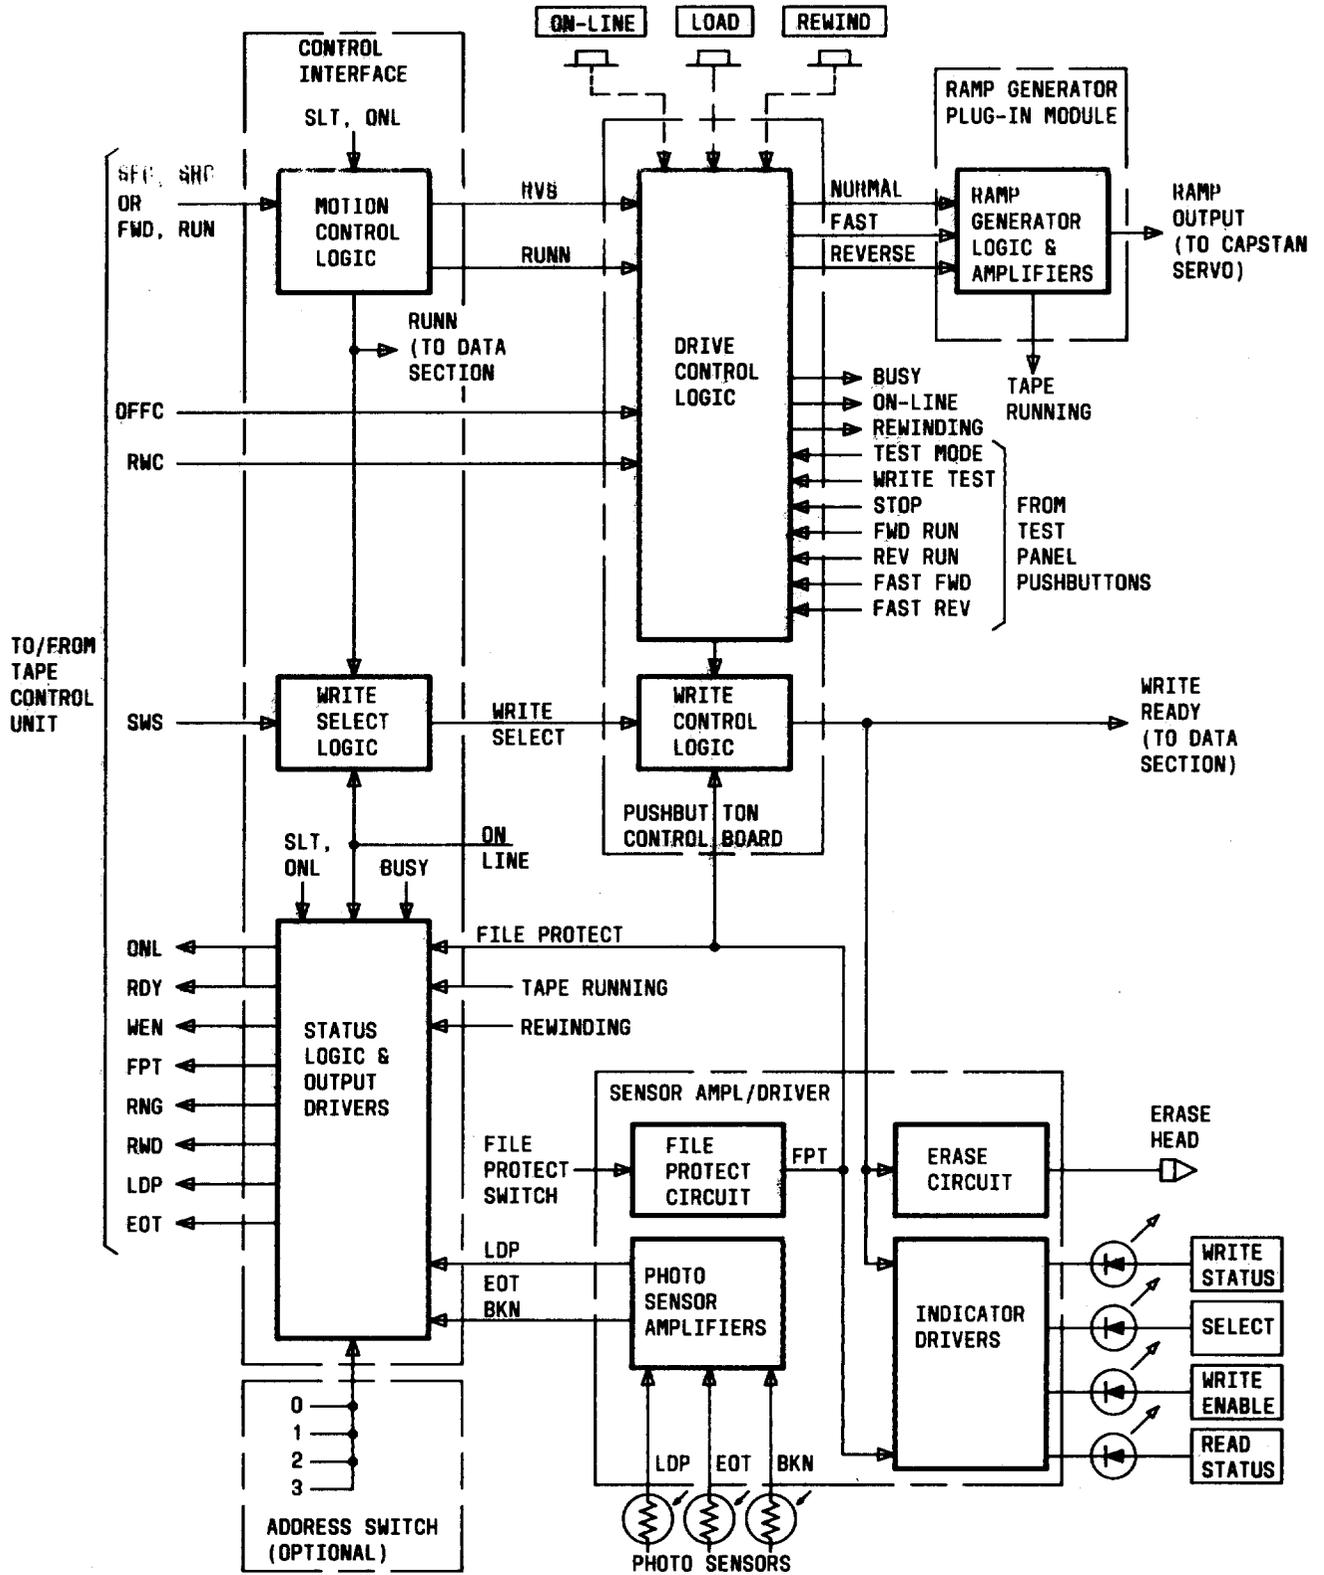

Fig. 8—Control Logic Block Diagram
**4.02** The control logic generates tape system commands in response to commands from the central control (CC) and the local control panels. In addition, certain status signals are returned to the CC and to the status indicators on the control panels. Figure 8 is a block diagram of the control logic.